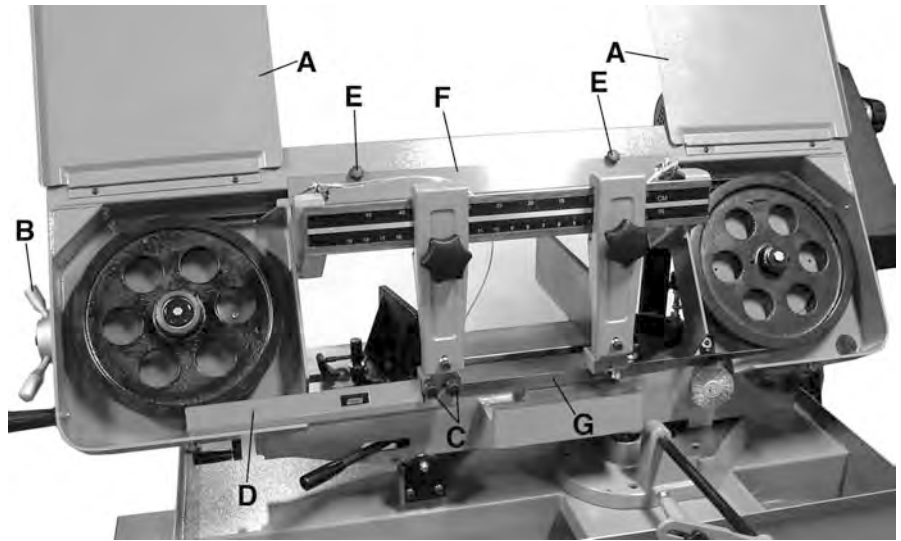

FIGURE 23
3. Open both wheel covers (A) Fig.23 and clean the debris out of the machine.
4. Release blade tension by turning the blade tension levers (B) counterclockwise.
5. Loosen two lock knobs (C) and remove blade guard (D).
6. Remove two lock knobs (E) and remove top blade guard (F).
7. Remove the blade (G) from both wheels and out of each blade guide.